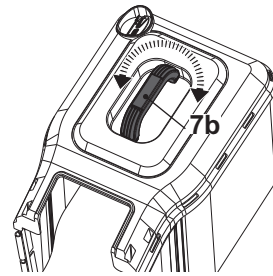

Fig. 6
- The carry handle (7a) is already preassembled on the top cover (7b) and its position is rotatable to fit the intended use (Fig. 6).
- The grass catcher (7) is ready for use.